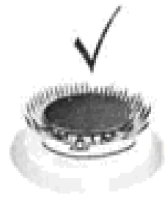

Figure 9
- ❖ Make sure of fitting burner caps, burner and fire bars to their places properly before operating your appliance. **(See figure 9)**